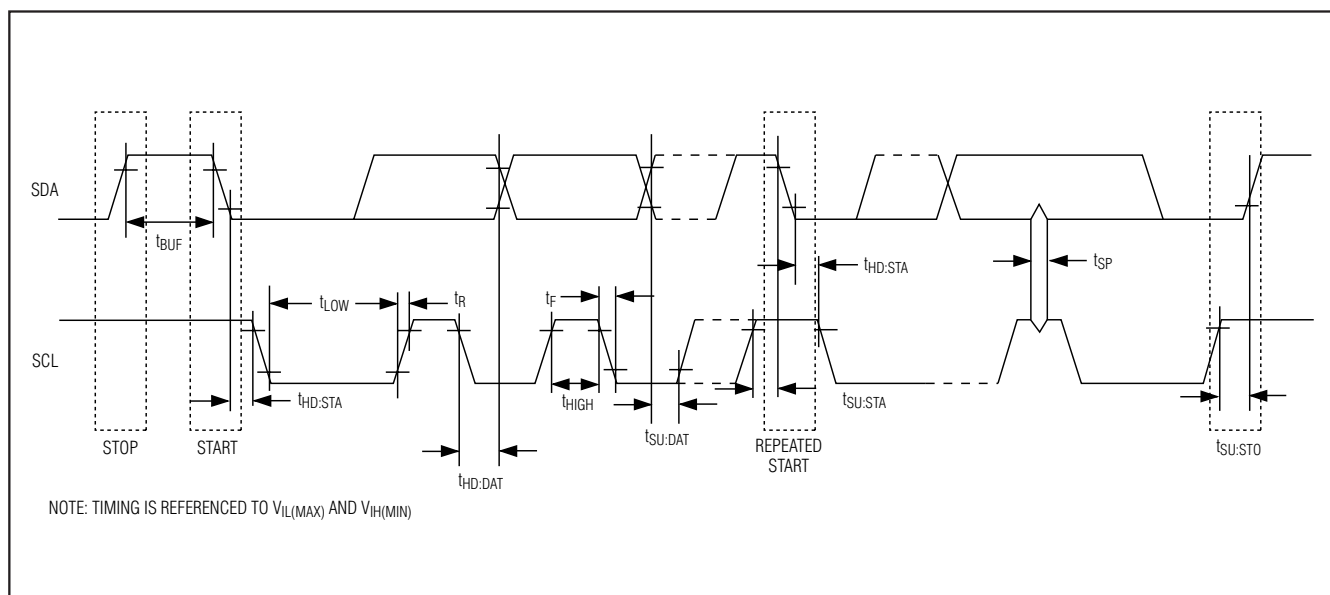

Figure 2. I2C Timing Diagram
**Bit Write:** Transitions of SDA must occur during the low state of SCL. The data on SDA must remain valid and unchanged during the entire high pulse of SCL plus the setup and hold time requirements (see Figure 2). Data is shifted into the device during the rising edge of the SCL.
**Bit Read:** At the end a write operation, the master must release the SDA bus line for the proper amount of setup time before the next rising edge of SCL during a bit read (see Figure 2). The device shifts out each bit of data on SDA at the falling edge of the previous SCL pulse and the data bit is valid at the rising edge of the current SCL pulse. Remember that the master generates all SCL clock pulses including when it is reading bits from the slave.
**Acknowledgement (ACK and NACK):** An acknowledgement (ACK) or not acknowledge (NACK) is always the 9th bit transmitted during a byte transfer. The device receiving data (the master during a read or the slave during a write operation) performs an ACK by transmitting a zero during the 9th bit. A device performs a NACK by transmitting a one during the 9th bit. Timing (Figure 2) for the ACK and NACK is identical to all other bit writes. An ACK is the acknowledgement that the device is properly receiving data. A NACK is used to terminate a read sequence or as an indication that the device is not receiving data.